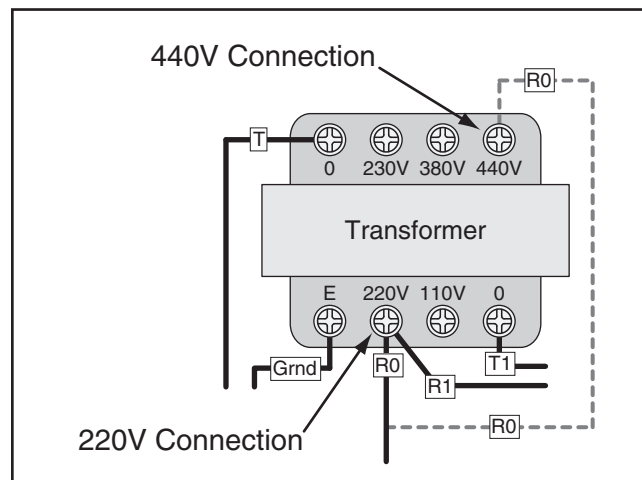

Figure 4. Model G0638 220V and 440V transformer connections.
4. Move the "R0" wire on the transformer from the 220V terminal to the 440V terminal (see **Figure 4**).